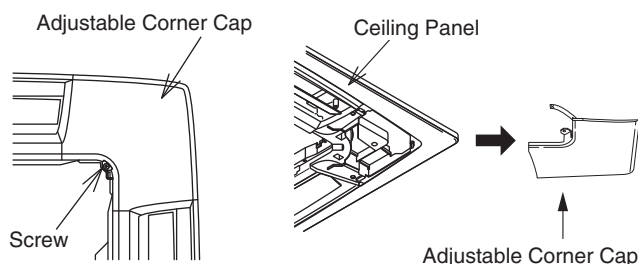

Fig. 8-2
- (1) Remove the air inlet grill.
- (2) Remove the screw holding the adjustable corner cap, slide the cap to the side and remove it. (Fig. 8-2)